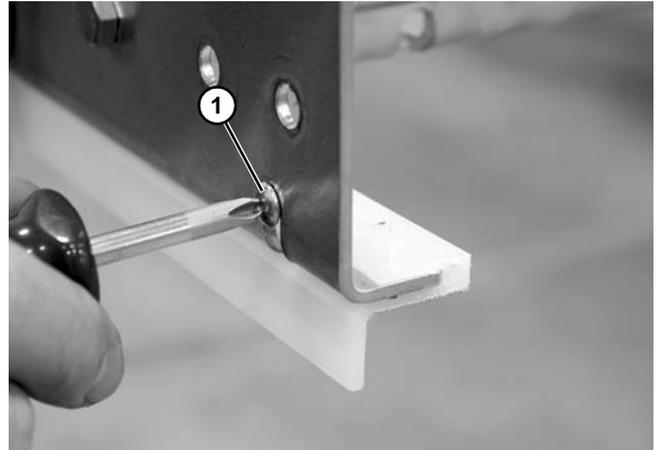

Figure 43
1. Remove the screw (**Figure 43, item 1**) retaining the wear strip to the frame.